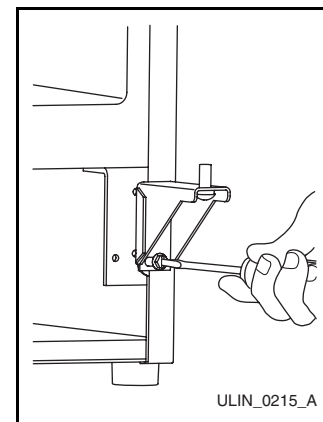

Figure 17
3. Remove bottom hinge from cabinet (two screws) (**Figure 17**).